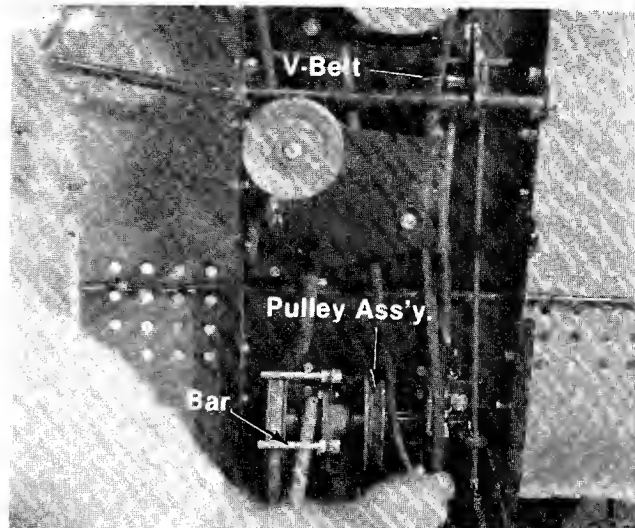

FIGURE 19.
5. Using a bar or large screwdriver, pry the pulley assembly towards the front of the tractor and unhook the belt from the pulley. See figure 19.